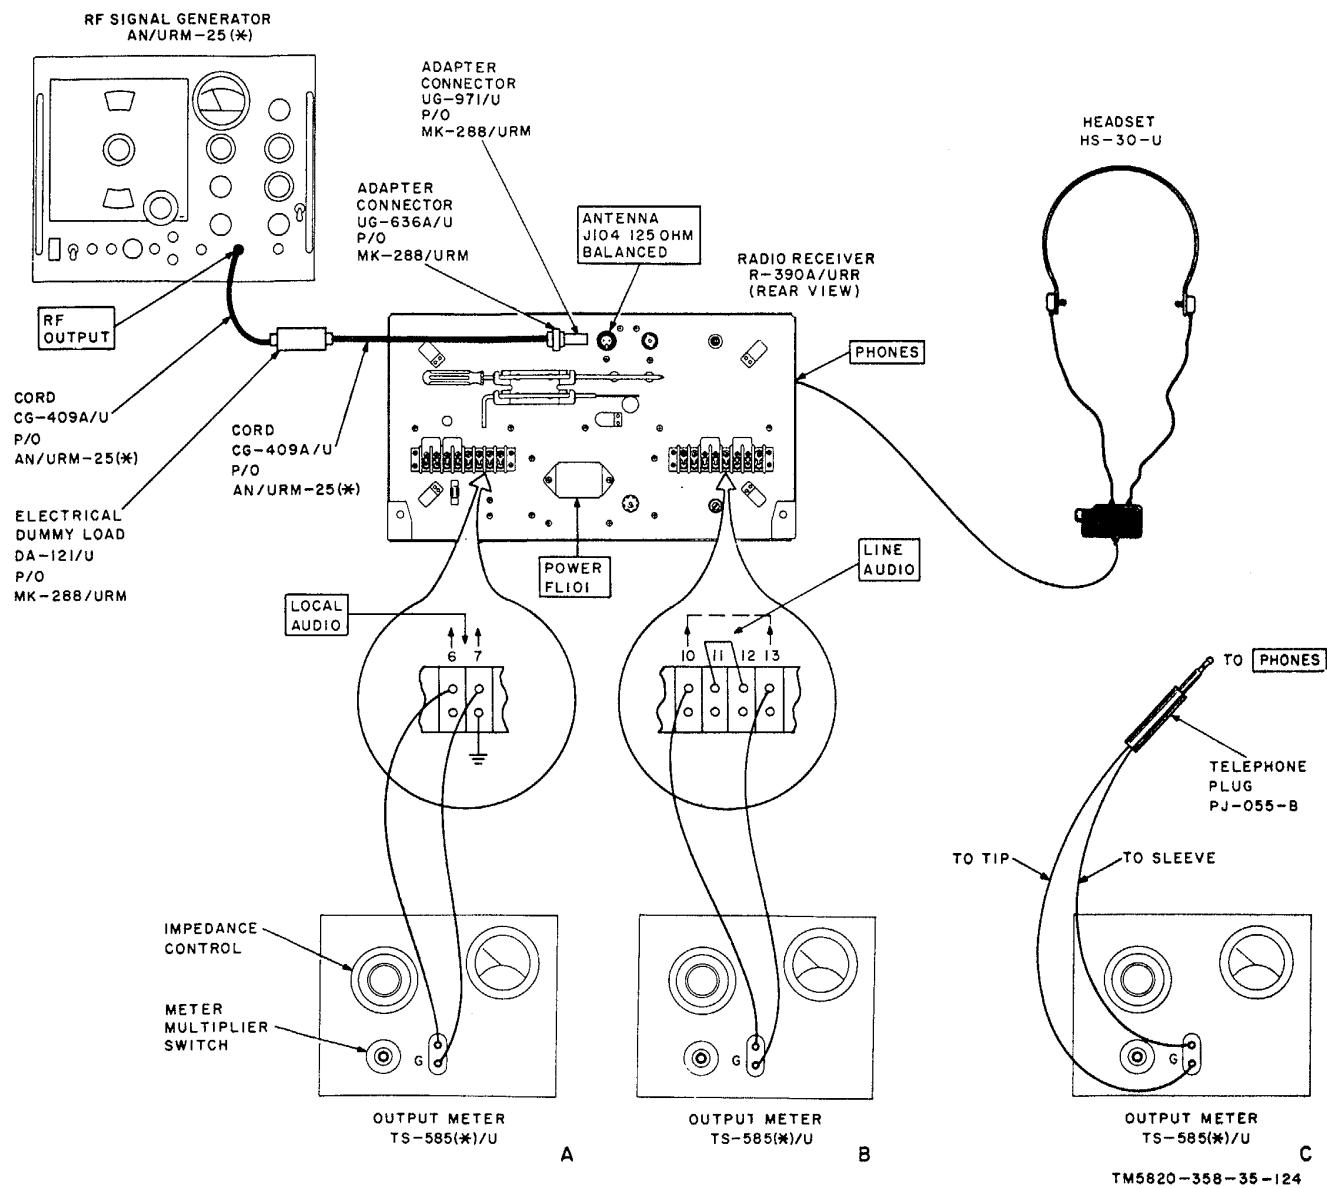

Figure 79. output test setup.
(fig. 79)
b. Test Connections and Conditions Connect the equipment as shown in A, figure 79.